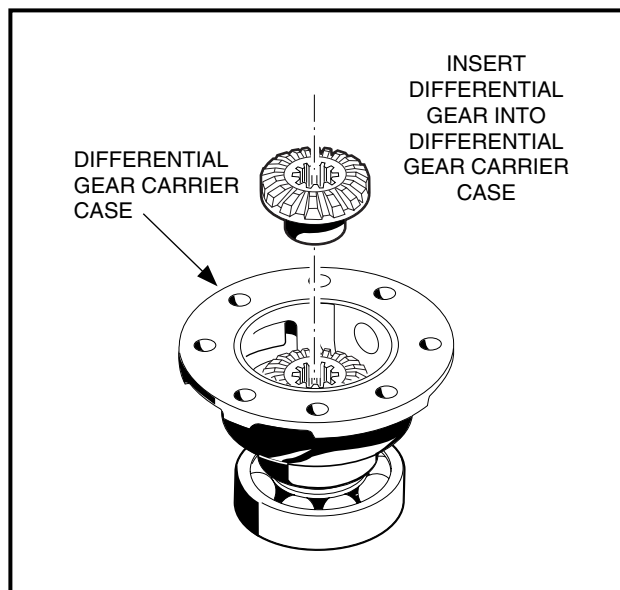

FIGURE 10-62
2. Install differential gear (91) into the carrier case (84) (**Figure 10-6, Page 39**) as shown (**Figure 10-62**).